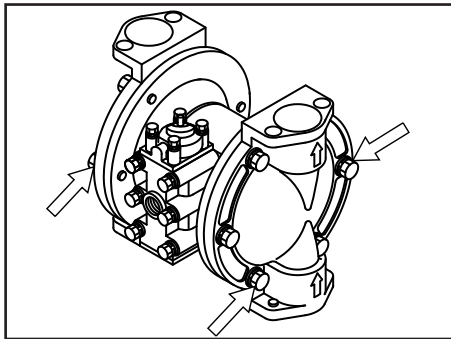

Figure 17
- Remove the 12 retainer bolts from the out chamber and remove the out chamber (See Figure 17).